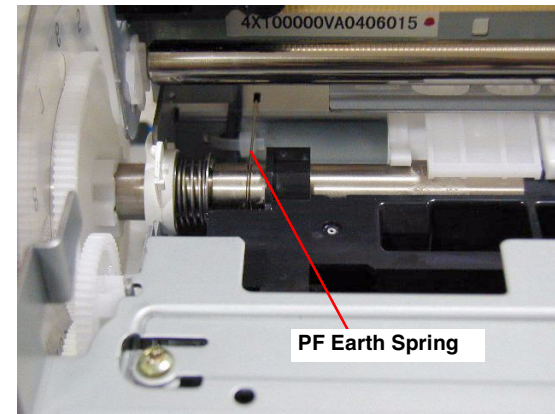

Figure 4-54. Removing the PF Earth Spring
- 6) Remove the Earth Spring between the left edge of the PF Roller and the Bottom Frame. Refer to Figure 4-54.